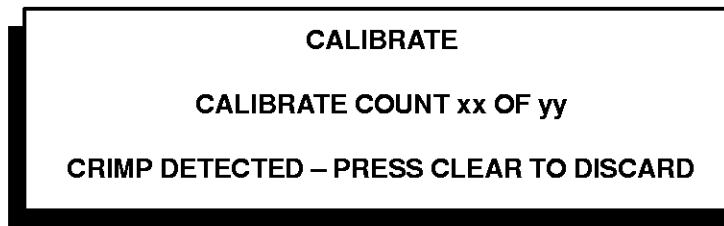

Figure 2-2. CALIBRATE COUNT Screen
1. Depress the CAL key from the Main Menu or RUN mode. See Figure 2-2.